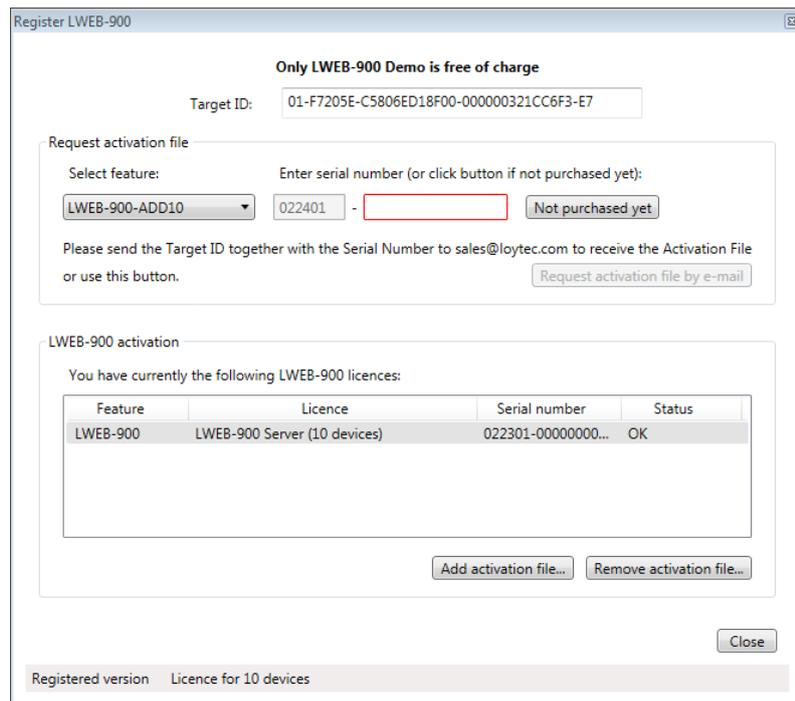

Figure 20: LWEB-900 Registration
2. Select **Help** → **Register...** to open the registration dialog (see Figure 20).